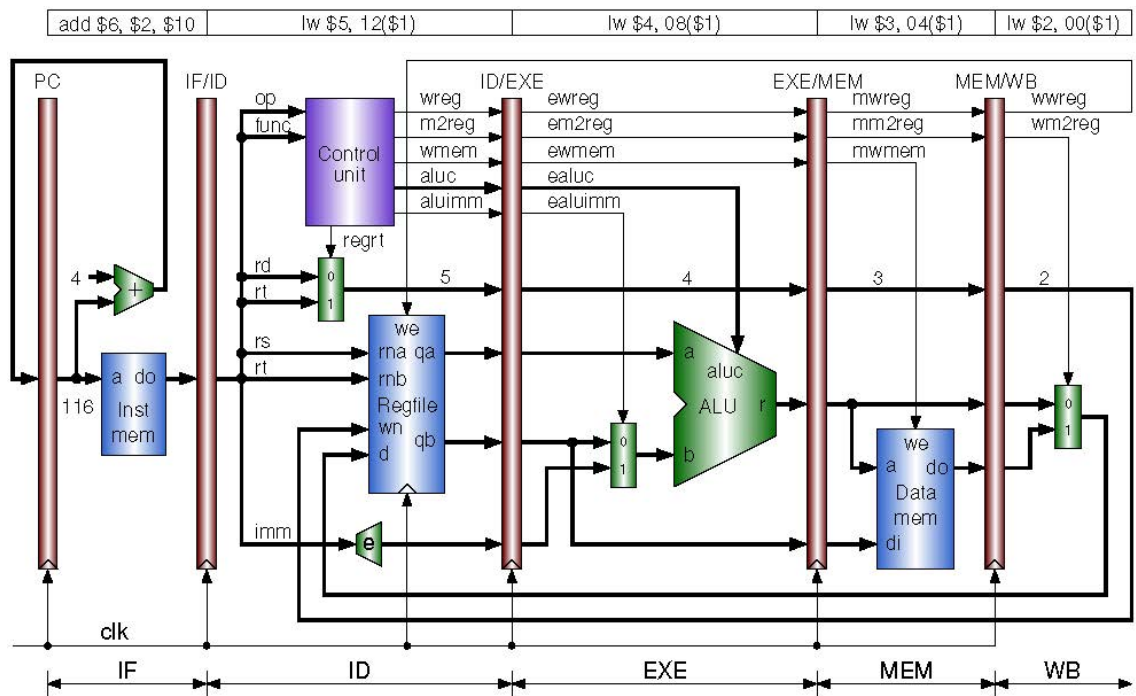
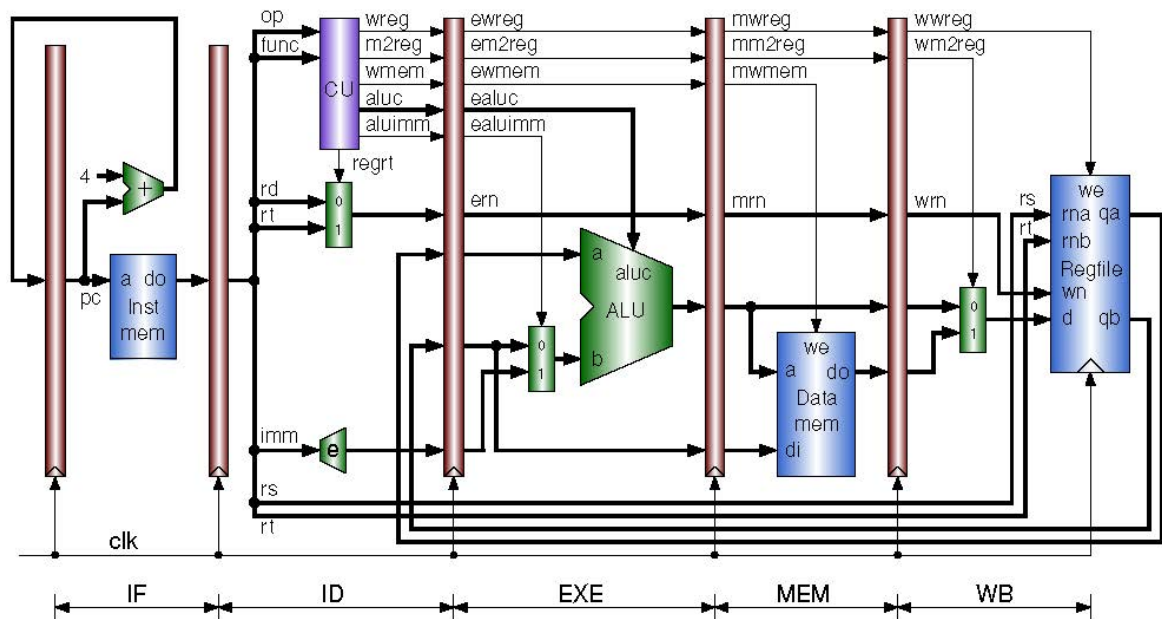
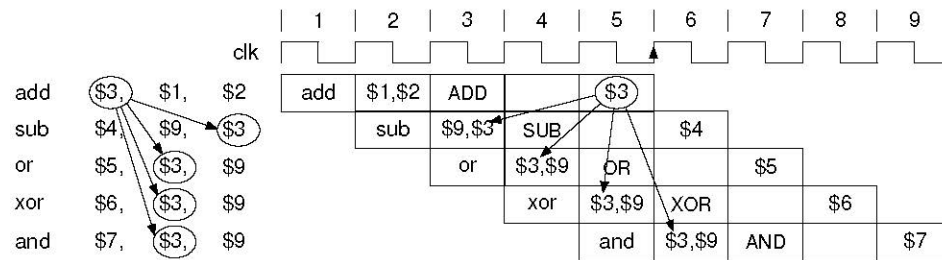

Figure 1 Pipeline write back (WB) stage
Figure 2 Writing result to the register file in the write back stage
Figure 3 Data hazard examples
In order to focus our attention on the WB stage easily, the baseline CPU shown in Figure 1 is redrawn by putting the register file on the WB stage where the execution result of an instruction is written as shown in Figure 2. The state of the art content can be read correctly in the ID stage after it is written at the end of its WB stage. Data hazards occur in the code example shown in Figure 3. **One solution that you need to do is to force these instructions to wait until the register \$3 is updated by the first instruction. This waiting is called a pipeline stall**
10. Write a Verilog code that implement the following instructions using the design shown in **Figure 3**. Write a Verilog test bench to verify your code: (You have to show qa and qb signals that output from the Regfile block in your simulation outputs)